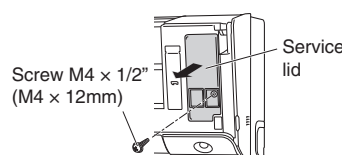

Fig.3
- 5) Remove the service lid screws (1 screw) and remove service lid. (See Fig.3)